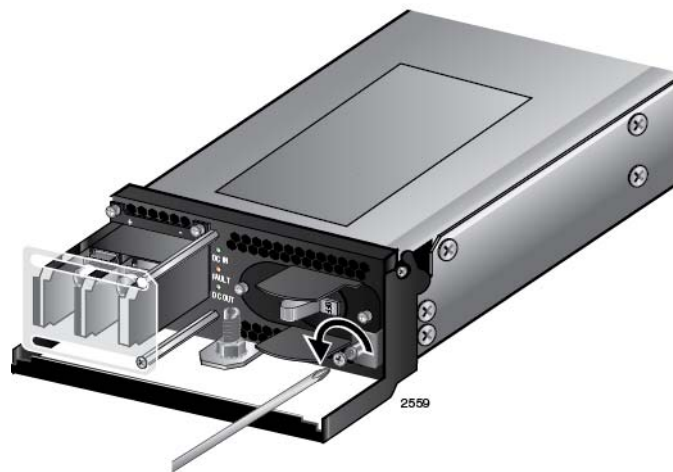

Figure 58. Loosening the Handle locking Screw on the AT-SBxPWRPOE1 DC System Power Supply
4. With a #2 Phillips-head screwdriver, loosen the handle locking screw on the power supply, as shown in Figure 58 on page 104.